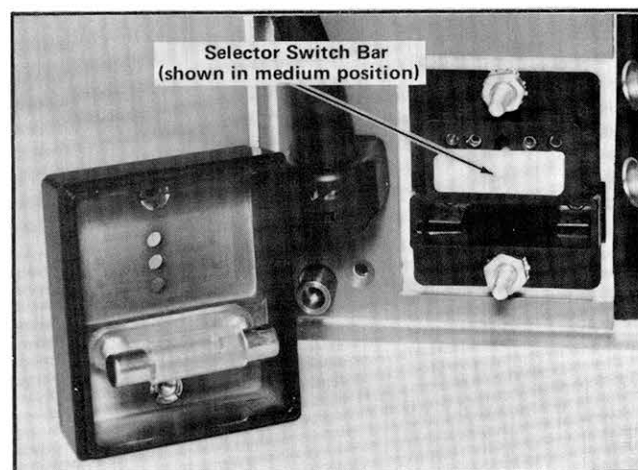

Fig. 2-1. Power supply regulating range selector.
4. Pull out the range selector switch bar (see Fig. 2-1). Slide the bar to the desired position and plug it back in. Select a range which is centered about the average line voltage to which the instrument is to be connected (see Table 2-1).